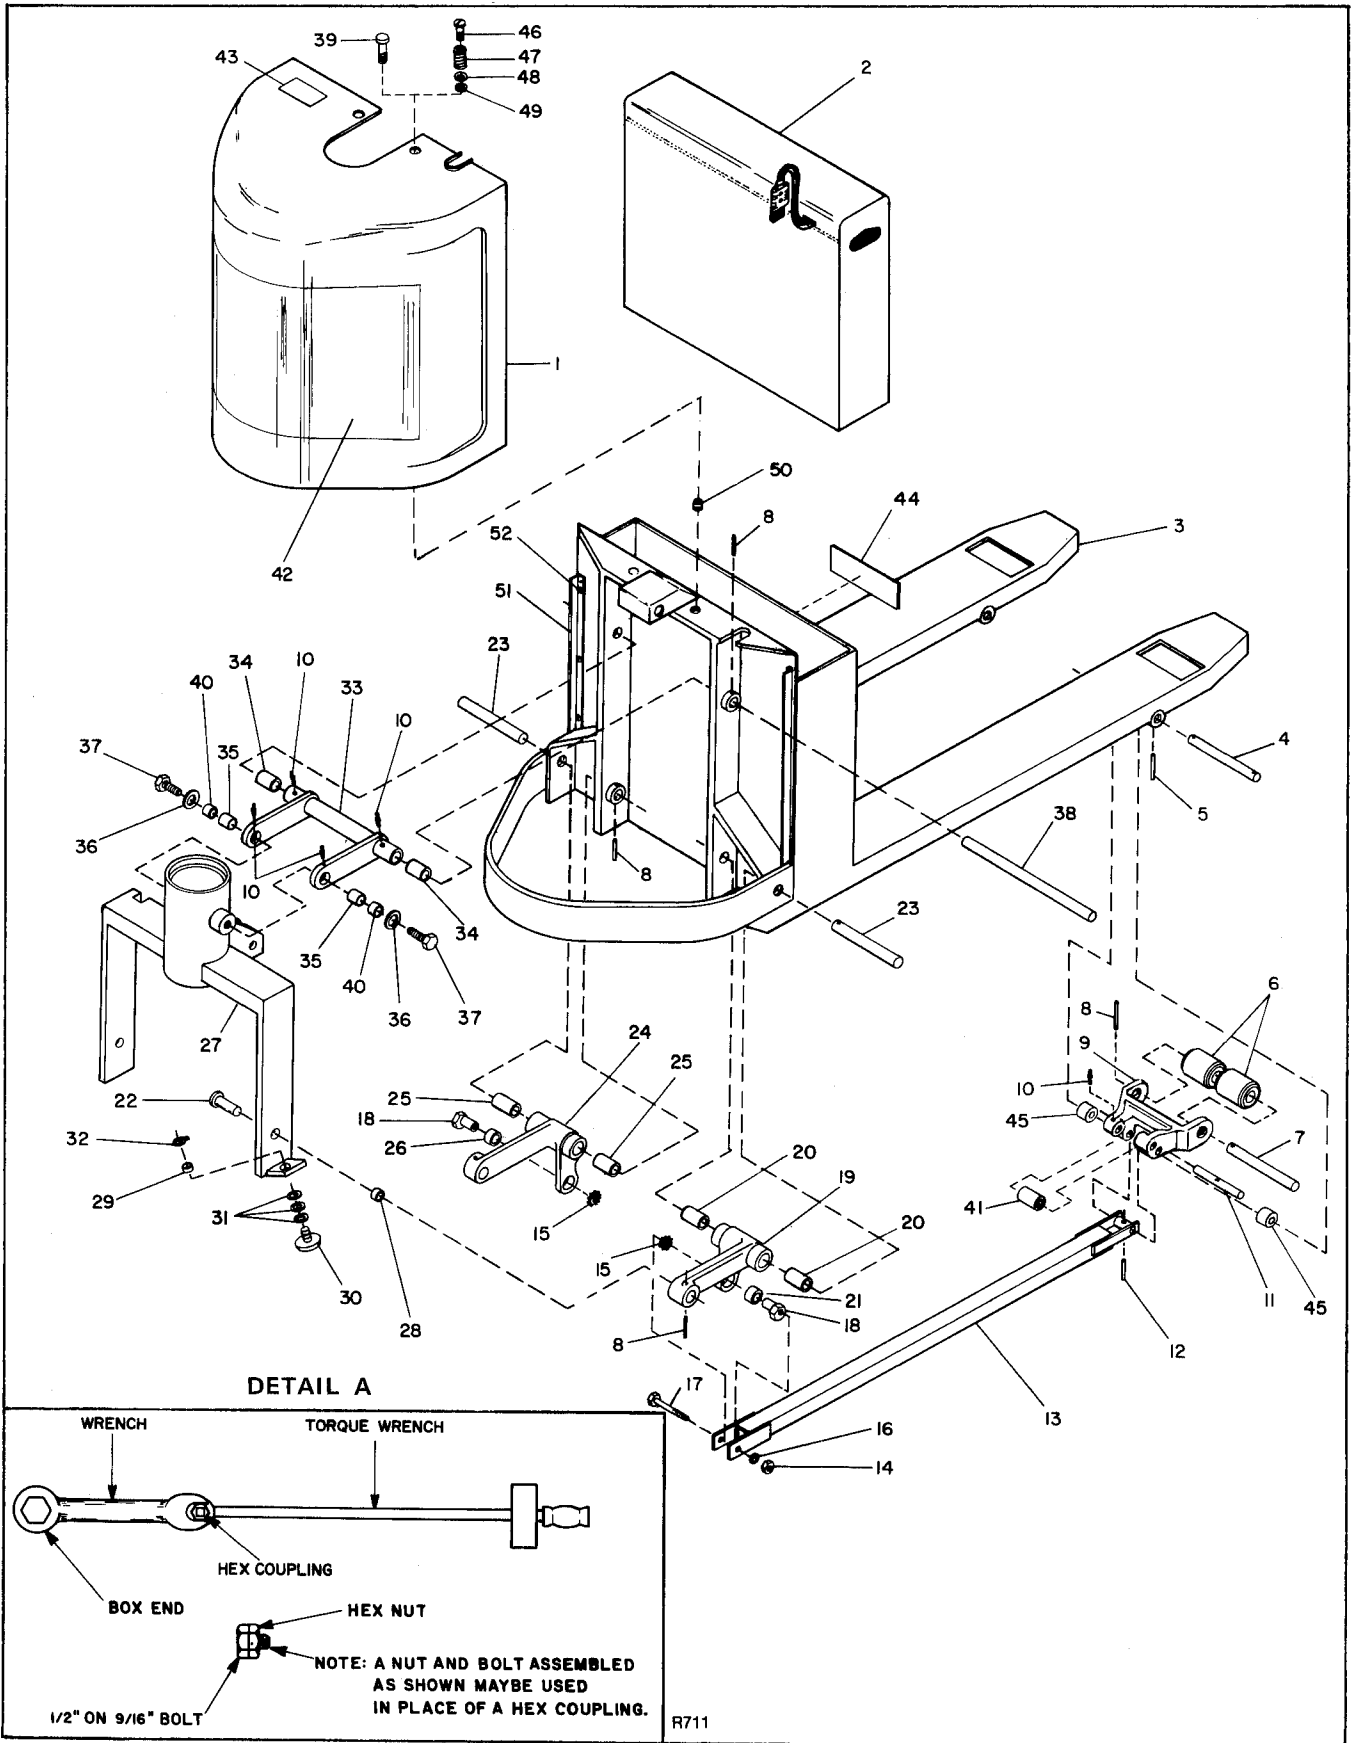

Figure 3-11. Standard Chassis and Pivot Assembly (Eccentric Adjusted Push Rods)
NOTE Numbers in parenthesis () refer to standard chassis figures 3-11 and 3-12 and numbers in brackets [] refer to narrow straddle of figure 3-13.
12. Remove shafts (23) [14] and (38) [30] their securing pins (8) [6], freeing pivot assemblies from chassis.
13. Use crane to raise the yoke a few inches for better access to pivot assemblies (19) [9] and (24) [33].
- a. on eccentric-adjusted trucks, remove screw (17, fig. 3-11) being careful not to lose eccentric (18), bushing (21), and lock washer (15).
16. Further disassembly may be accomplished using figure 3-11, 3-12, or 3-13 as a guide.
Reinstall the yoke by reversing the removal procedure. On trucks with eccentric-adjusted push rods, lubricate the threads on screw (17, figure 3-11) before reconnecting the push rods to the lower pivot assembly. Tighten screw until just snug, and refer to paragraph 3-15f to adjust eccentric.
5. Remove 1/2-inch screw (17, figure 3-11), nut and lock washer from rear end of push rod.
6. Detach push rod from lower pivot arm and remove and retain eccentric bushing (18), bushing (21), and lock washer (15).
2. Attach wheel housing to push rod with pivot shaft (11, figure 3-11) and secure with roll pin (12).
3. Reinstall wheel housing (9), roller (41) and exit rollers (45) into straddles. Install wheel housing pivot shaft (4) and secure with roll pin (5).
4. Attach push rod to lower pivot arm, making sure eccentric (18), bushing (21) and lock washer (15) are properly positioned. Secure with screw (17), lock washer (16) and nut (14). Tighten until just snug. Refer to paragraph 3-15f to adjust eccentric.
3. Loosen nut (14, figure 3-11) and turn eccentric (18) until all looseness in push rod linkage is taken up.